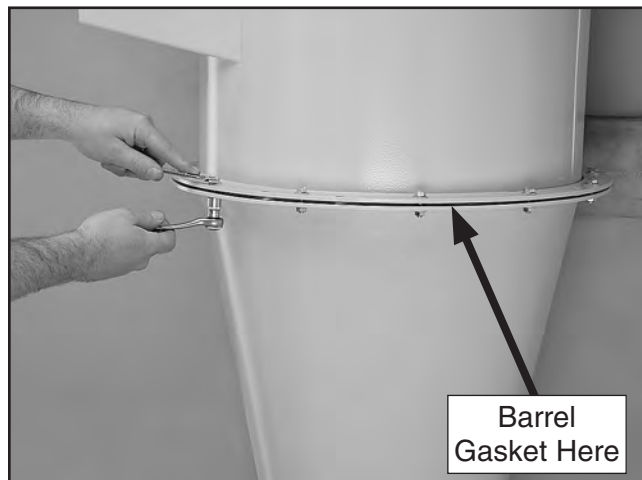

Figure 15. Cyclone funnel attached to intake barrel.
8. Attach the cyclone funnel to the intake barrel with a barrel gasket between them, as shown in **Figure 15**, using (12) $\frac{5}{16}$ "-18 x 1" hex bolts, (24) $\frac{5}{16}$ " flat washers, and (12) $\frac{5}{16}$ "-18 hex nuts; also secure the wall mounting brace to the lip of the intake barrel/funnel assembly with the same hardware.